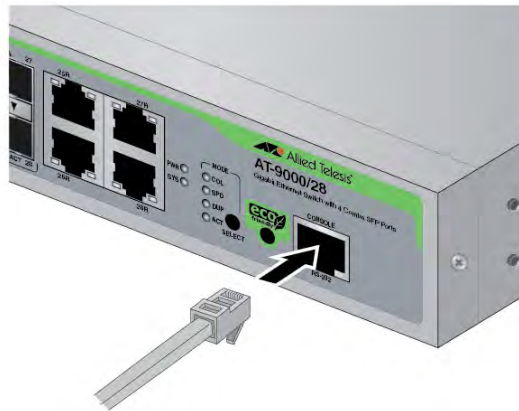

Figure 18. Connecting Management Cable to Switch RJ-45 Console Port
1. Connect the RJ-45 end of the management cable, included with the shipping package, to the Console port. The Console port is located on the front panel of the AT-9000/12POE, AT-9000/28, AT-9000/28POE, and AT-9000/28SP switches, as shown in Figure 18, and on the rear panel of the AT-9000/52 switch.